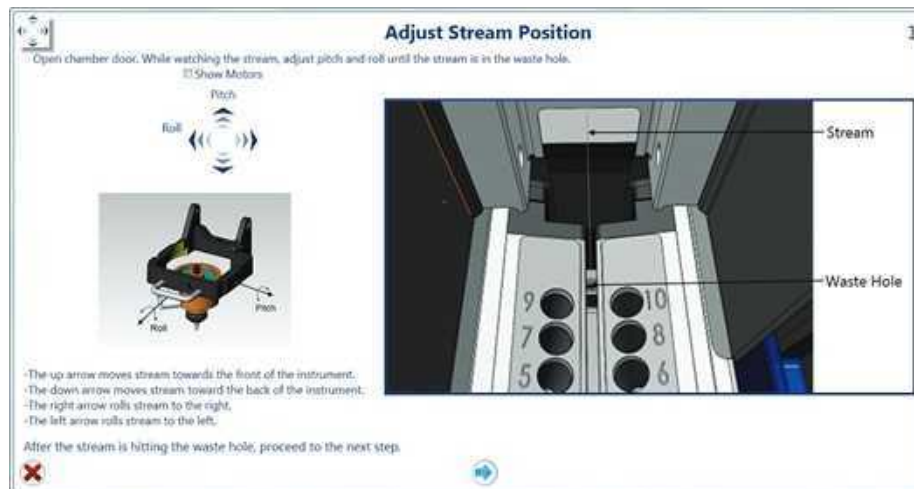

Fig. 121. Adjust Stream Position window.
28. The Adjust Stream Position window will open (Figure 121).